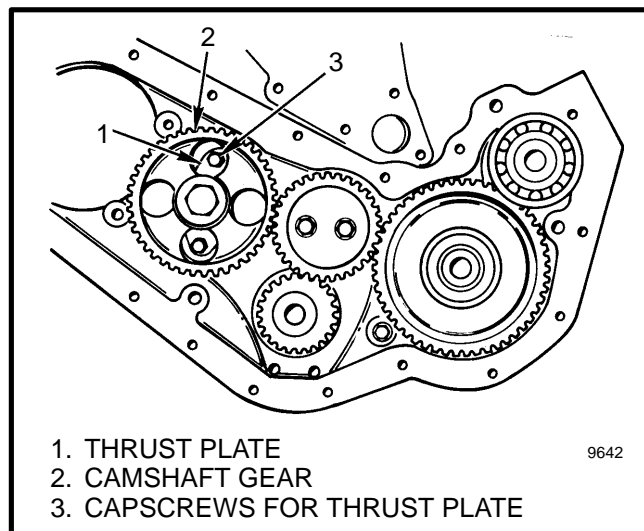

FIGURE 30. ACCESS TO THE THRUST PLATE FOR THE CAMSHAFT
5. Rotate the camshaft as necessary to get access to the capscrews for the thrust plate. See FIGURE 30. Remove the bolts for the thrust plate.